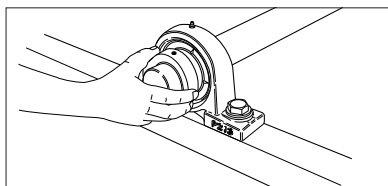

Fig.8.10
- 5) Fit the concave side of the eccentric cover over the protrusion provided in the inner ring. Then, turn the eccentric collar in the shaft rotating direction by hands to tighten it temporarily (Fig.8.10).